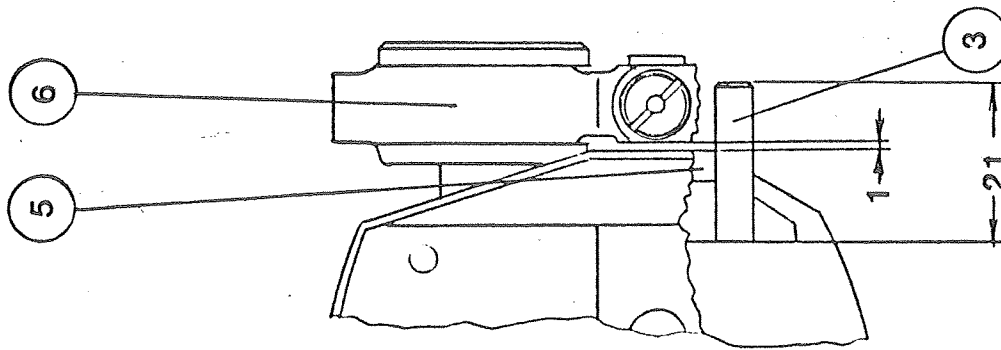
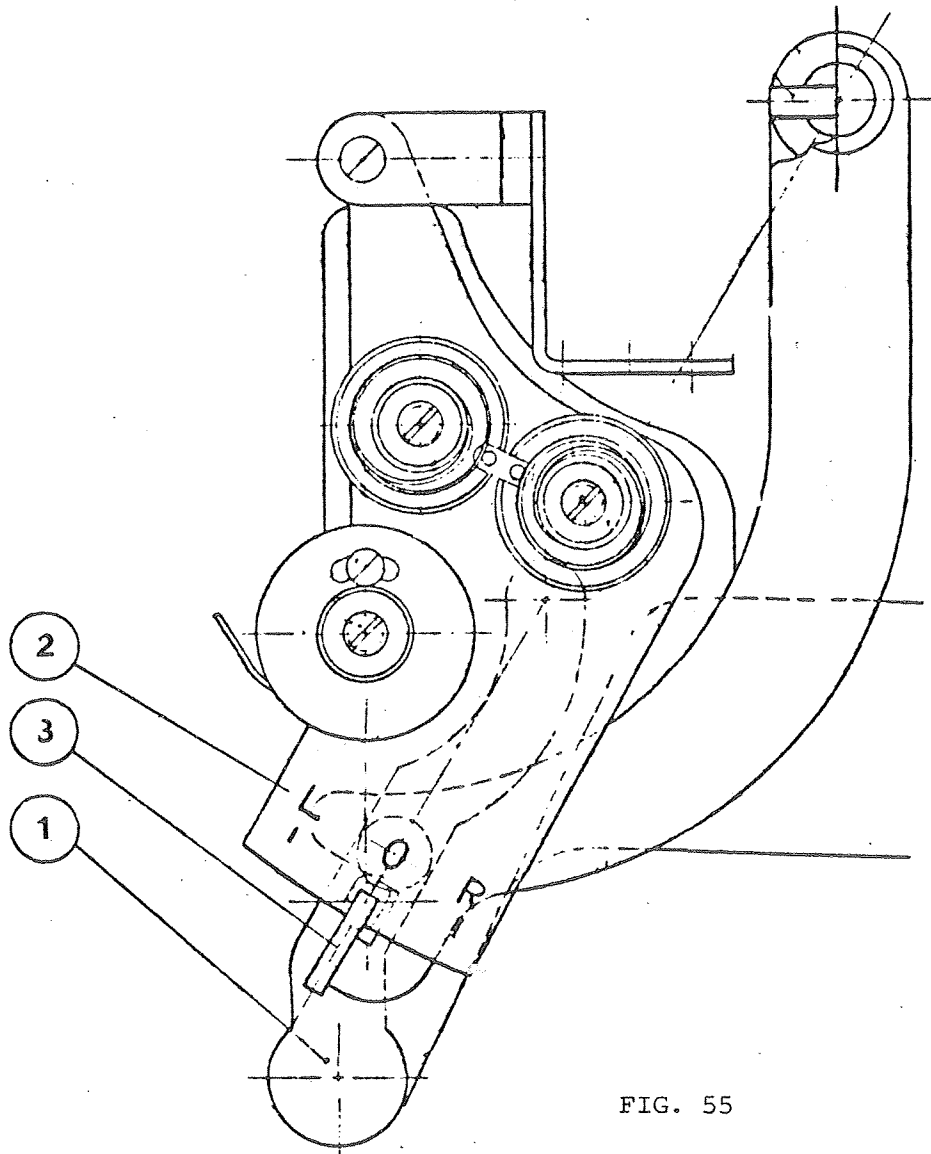

FIG. 54
FIG. 55
- a) Assemble left and right plungers (1) with their springs and cap screws (9) with needle bar release bracket (2), shown partly sectioned. There should be 5mm (0.197") space between the ends of the two plungers. If this space should be greater, use a 6.5mm (size "F") drill and carefully and equally deepen the plunger holes to obtain the specified distance between the ends of the two plungers.
- b) If the distance between the end of the plungers should be less than the specified 5mm, shorten plungers (1) by carefully grinding their respective large diameter ends.
- c) The needle bar change-over frame pin (3) is driven into the arm casting and must project above same 21mm (0.826") as shown in Fig. 54 below.
- d) Position the eccentric collar (4) so that the axis (x-x) is at a right angle to the surface of the face plate of the machine and tighten its set screw to provide 1mm (0.040") clearance between the underside of the needle bar change-over frame (6) and the arm top cover (5) Fig. 54.
ADJUSTING THE LINE UP OF THE NEEDLE BAR SELECTOR LEVER (Fig. 55)
- a) Press selector lever release (1) Fig. 55 to ascertain that position of selector lever (3) coincides with marking "O" on selector lever bracket (2).
- b) In the event that the selector lever is out of position, adjust to correct setting by adjusting the length of ball-jointed connecting rod (7) and (8). If selector lever in its neutral ("O") position should be off its mark toward "L", shorten the connecting rod. If the selector lever should be off in direction of "R", lengthen connecting rod.
NOTE: Since connecting rod (8) has right hand threads at both ends, its length can only be adjusted after one of the ball studs has been removed from the part into which it is inserted. For greatest convenience, unscrew the ball stud inserted into the needle bar change-over frame (6) Fig. 54.